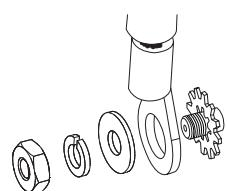

Fig. 7-3, Ground Wire Stack Up
- Verify the power supply is connected to the shelf grounding connection. The power supply connects to the ground stud  in Fig. 7-1. Follow the proper stack-up as shown in Fig. 7-3 to attach the supplied lock washer, #10-32 nut and supplied ground wire.
- Verify the shelf is grounded via the unused #10-32 ground stud  in Fig. 7-1, and a user-supplied ground wire. Follow the proper stack up as shown in Fig. 7-3 to attach the supplied lock washer, #10-32 nut and customer supplied ground wire. Refer to applicable codes to determine additional grounding requirements.